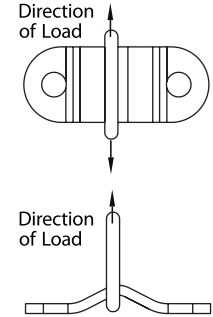

Fig. 3
D-Ring Two Hole Anchor (DXFP843001, DXFP843002)(Fig.3)
- For concrete installation, drill (2) 3/2 in. (88.9 mm) the depth of holes at bolt installation locations; 1/2 in. (12.7 mm) the gap between the anchor bolt and concrete inside the hole. Then, install D-ring 2 Anchor with bolts.
- Attach complete and compatible PFAS to D-Ring Anchor. (Fig. 3)